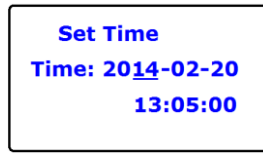

Fig 6.3.9
- 2) By double knock, the setting will decrease 1 unit, for example, decreasing 1 year, as Fig 6.3.9 and Fig